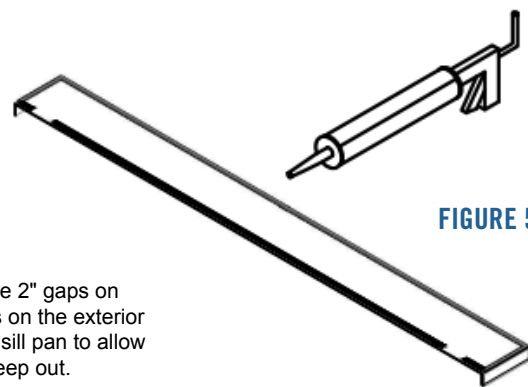

FIGURE 5B
D. (Sill pan is recommended on all door installs) Apply a $\frac{3}{8}$ " bead of sealant around the perimeter of the bottom side of the sill pan as shown in figure 5b (Sealant should conform to AAMA 802.3-16 and 803.3-16). Apply glue on the sill in the opening to secure the sill pan.